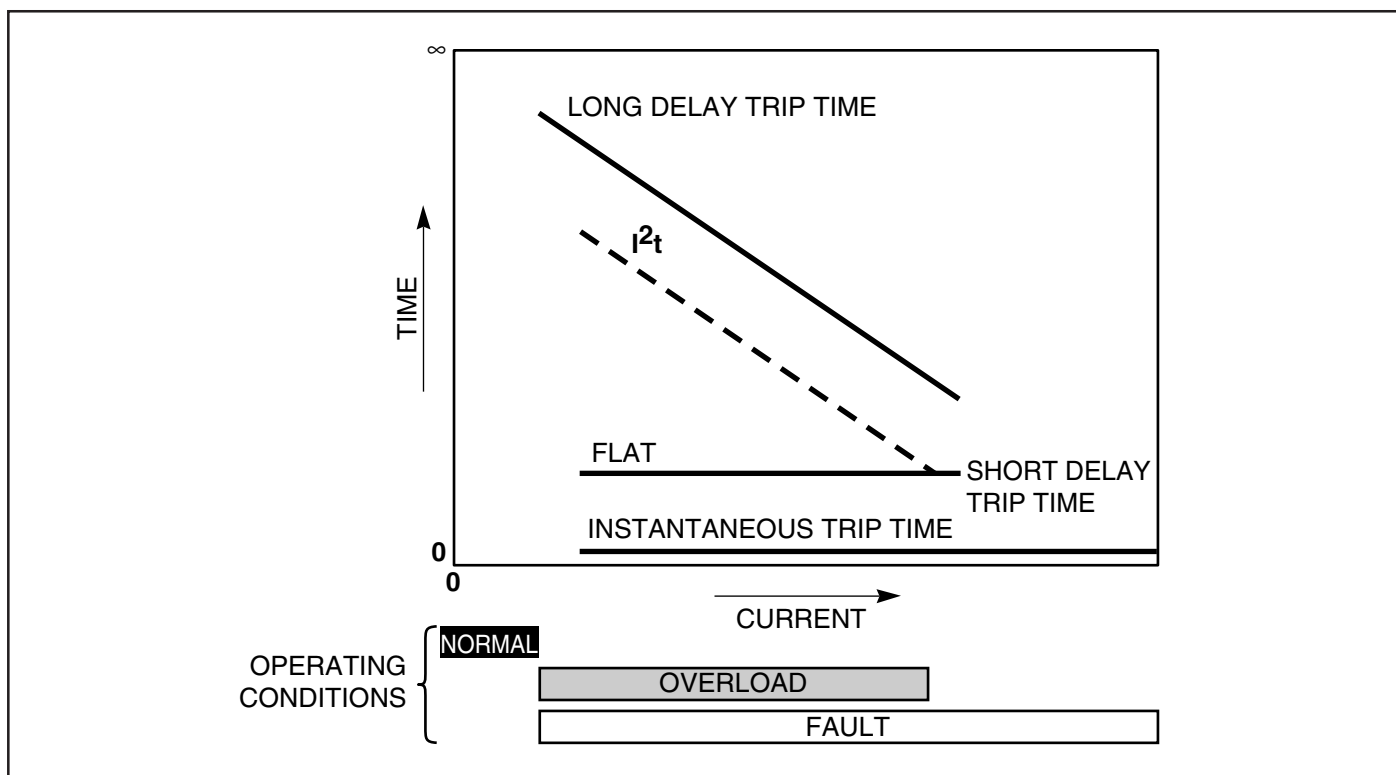

Fig. 14-1 Time-Current Curves
All Digitrip RMS Trip Units are designed to meet the protection requirements of a modern power distribution system. As is shown in Figure 14-1, Application Current Levels can be broken into three typical regions:
- Digitrip RMS Trip Units, when set up according to the results of a Power System study of the specific distribution system on which they are applied, will respond to various current levels to provide accurate system protection as well as maximum system stability by properly coordinating with upstream and downstream devices (Figure 14-1).
- For NORMAL currents, the Trip Unit will accurately monitor the current, regardless of current waveform (due to its true RMS sensing system), assuring that up to full rated current may flow through the system without falsely tripping the breaker. This is shown as the NORMAL OPERATING CONDITION in Figure 14-1.
- For OVERLOAD currents, the Trip Unit will accurately assess the true heating value of the current (again a distinct advantage of its true RMS sensing system), and trip out following the LONG DELAY TRIP TIME curve in Figure 14-1. There are actually eight different LONG DELAY TRIP TIME curves available on the Trip Unit (selected by the Long Delay Time switch setting), and each curve follows a constant I^2t slope for excellent heating protection and coordination with other devices. The lowest level of OVERLOAD current to bring on this response is selected by the Long Delay Pickup setting on the Trip Unit.
- For FAULT currents, the Trip Unit will respond according to either the SHORT DELAY TRIP TIME or the INSTANTANEOUS TRIP TIME shown in Figure 14-1, depending on the fault current magnitude and whether the Short Delay function or Instantaneous function or both are present on the Trip Unit.
The SHORT DELAY TRIP TIME curve in Figure 14-1 shows the time to trip response of the Trip Unit to FAULT currents. There are actually eight different SHORT DELAY TRIP TIME curves available on the Trip Unit (selected by the Short Time switch setting), three of which follow a constant I^2t slope for best coordination with downstream devices, five of which are FLAT (fixed trip time). The lowest level of FAULT current to bring on this response is selected by the Short Delay Pickup setting on the Trip Unit.
The INSTANTANEOUS TRIP TIME curve in Figure 14-1 shows the time to trip response of the Trip Unit to FAULT currents. This curve is FLAT, providing the most rapid trip time possible (with no intentional delay) to be able to clear the fault as fast as possible and minimize the damage to the system. The lowest level of FAULT current to bring on this response is selected by the Instantaneous Pickup setting on the Trip Unit.